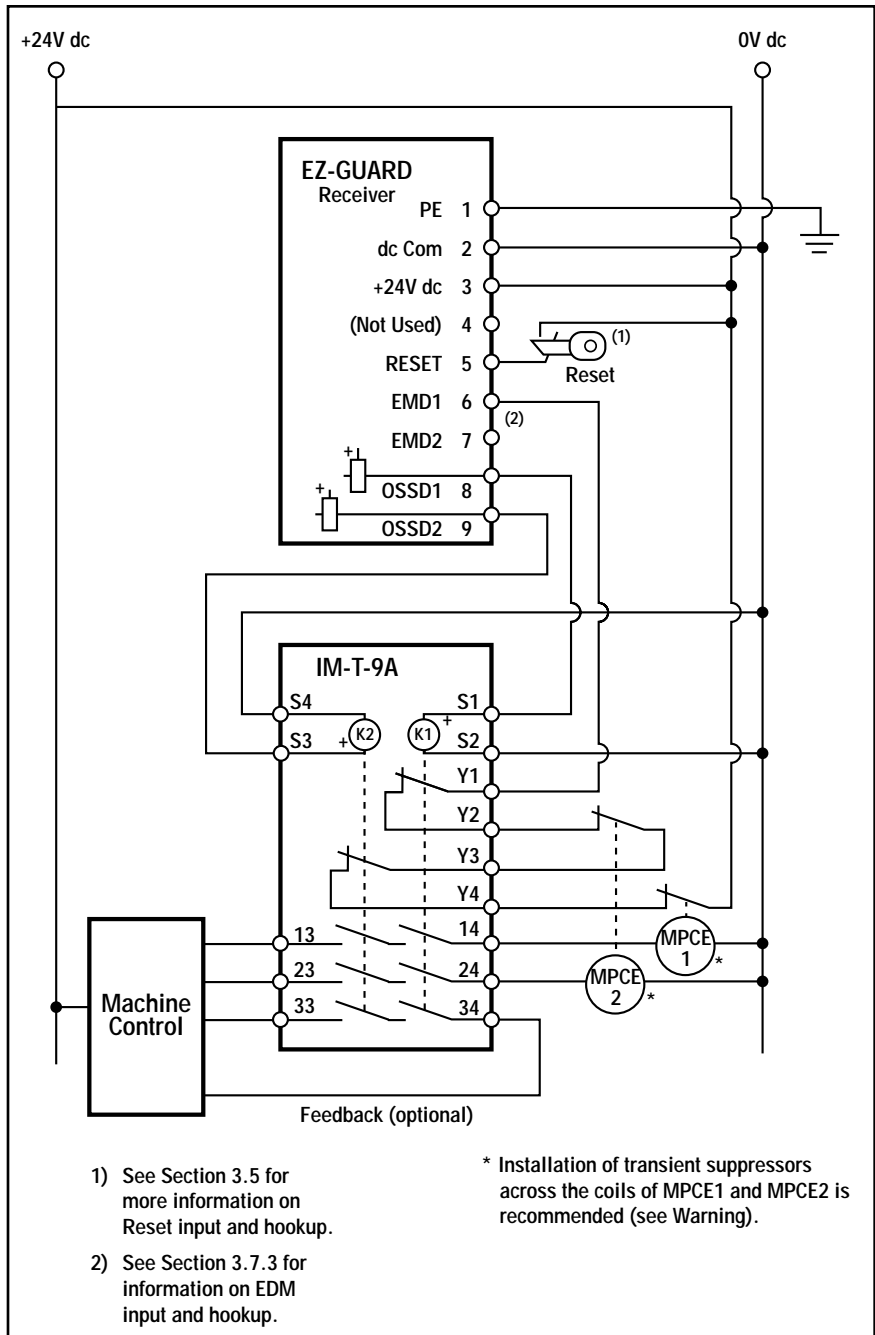

Figure 3-18. EZ-GUARD receiver generic hookup – interface module (1-channel EDM, key reset)
- **One-channel monitoring** is a series connection of closed monitor contacts that are forced-guided (captive contact) from each device controlled by the EZ-GUARD Grid. The monitoring contacts should open within 200 milliseconds of the OSSD outputs turning on (a clear condition) and should close within 200 milliseconds of the OSSD outputs turning off (a blocked condition) or a lockout will occur (see Diagnostics, Section 5.1). Refer to Figure 3-18 for 1-channel EDM hookup. Connect the monitor contacts between +24V dc and EDM1 (terminal 6). Leave EDM2 (terminal 7) open (no connection). Set the configuration DIP switches to 1, per Section 4.1.